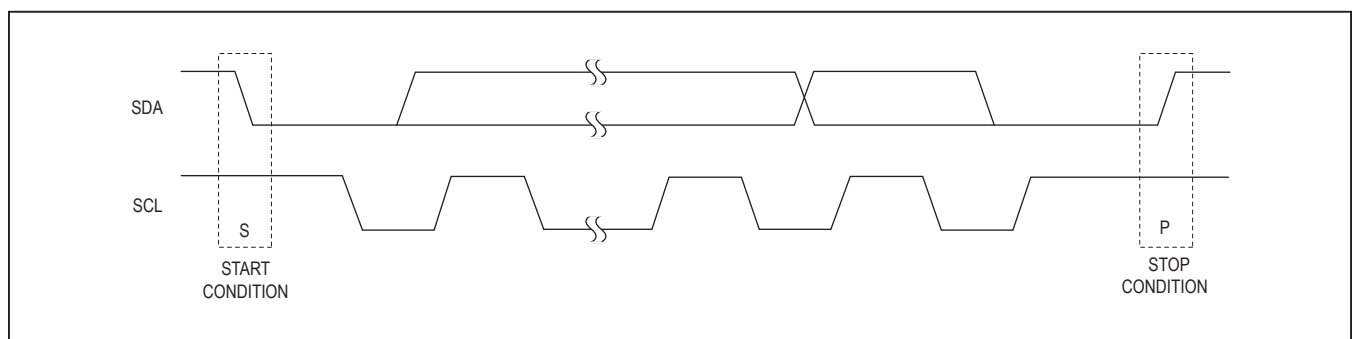

Figure 4. Start and Stop Conditions
Both SCL and SDA remain high when the interface is not busy. A master signals the beginning of a transmission with a START (S) condition by transitioning SDA from high to low while SCL is high (Figure 4). When the master has finished communicating with the slave, it issues a STOP (P) condition by transitioning SDA from low to high while SCL is high. The bus is then free for another transmission.